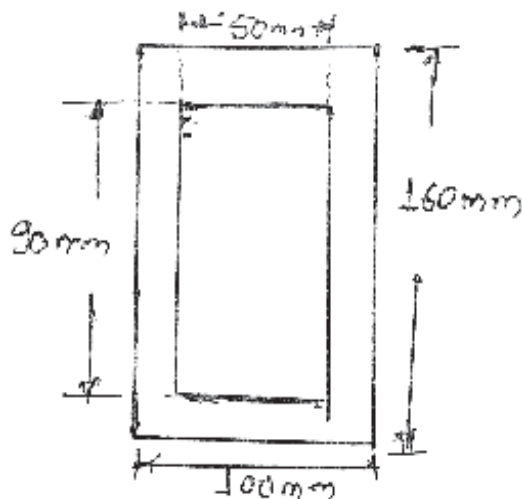

Fig. 7
b) A hollow rectangular section shown in Fig. 7 is provided for a 2 m long column with rigid flange at the top, carrying axial force P. Determine crippling load for it if it is used with